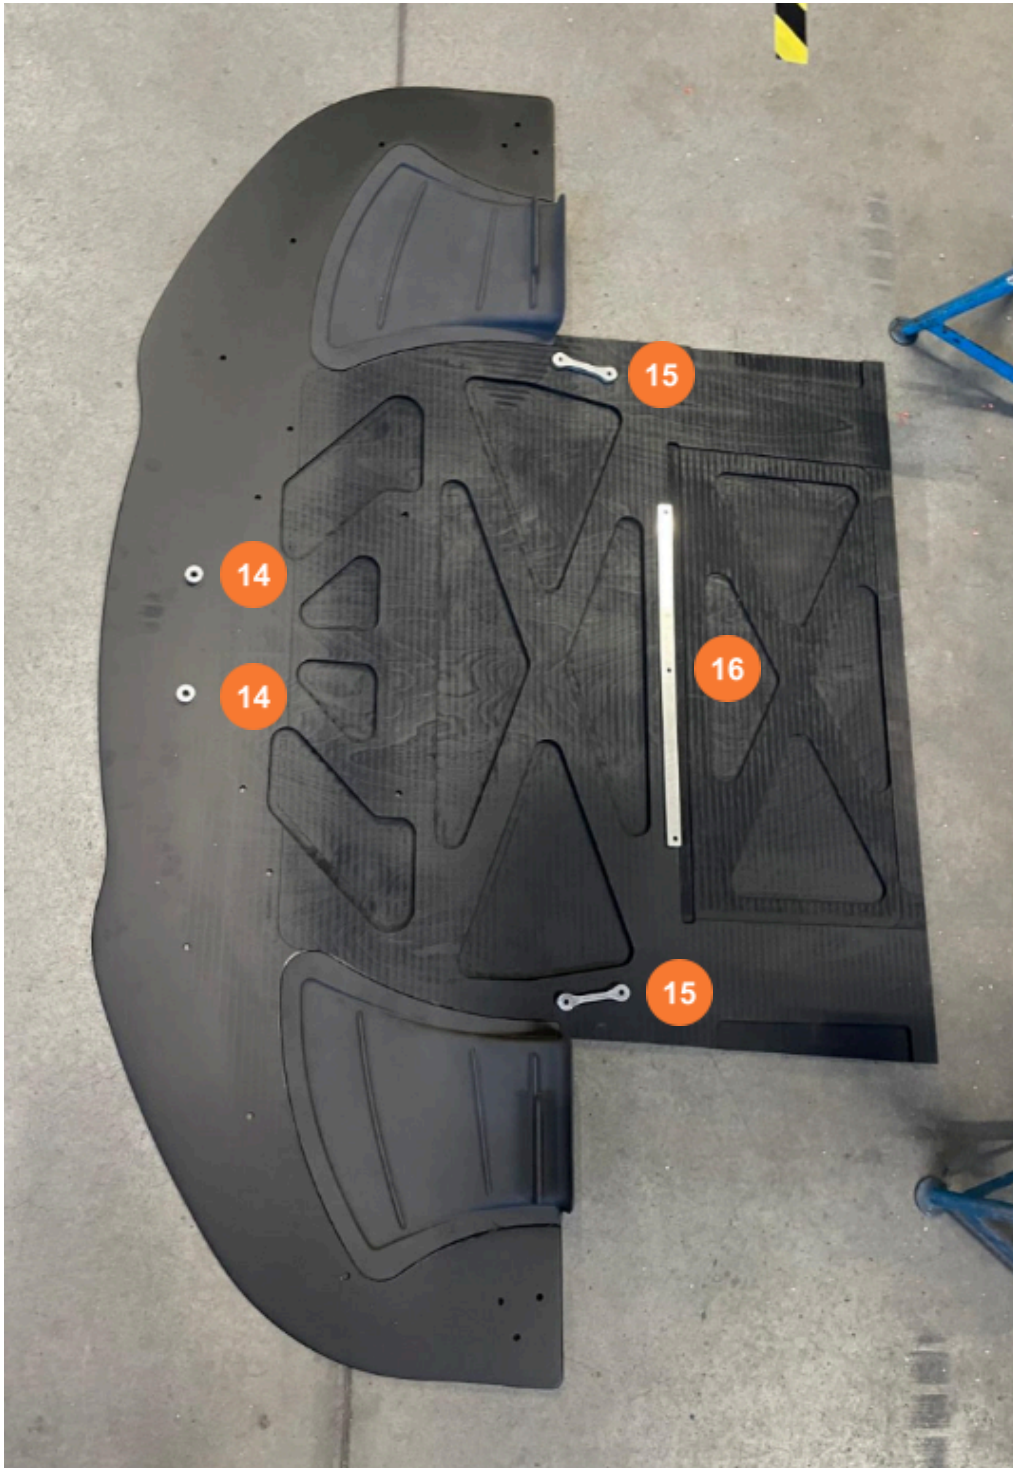

Fig 9: Preparing the spacers (14, 15, 16) for the frontsplitter.
11. Put the spacers for the frontsplitter (14, 15, 16) in position and fix them with super glue (38). As shown in Fig. 9.